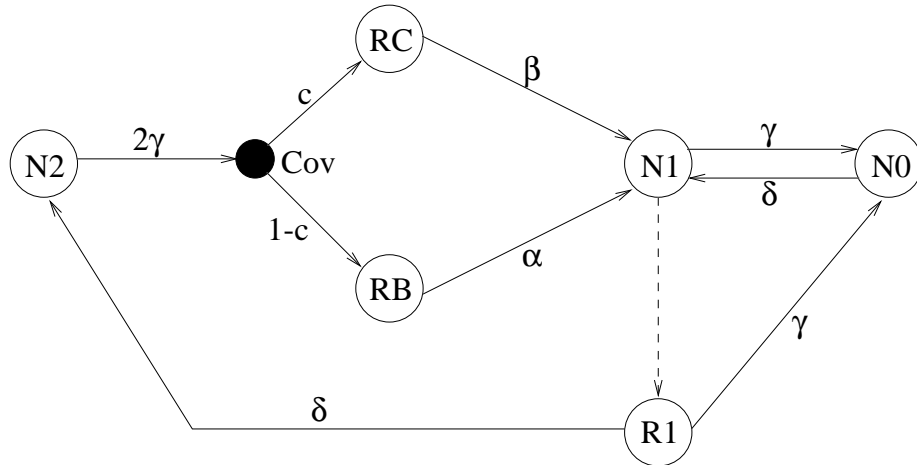

Figure 25: A simple model (from [DEME 92, p. 52])
The first example shows how to create the model depicted in figure 25. The following reward rates shall be assigned to the states:
- Step 4:** For every Markov state in figure 25, click the left mouse button at the corresponding position in the drawing area. For every mouse click, a circle with a question mark appears on the screen.